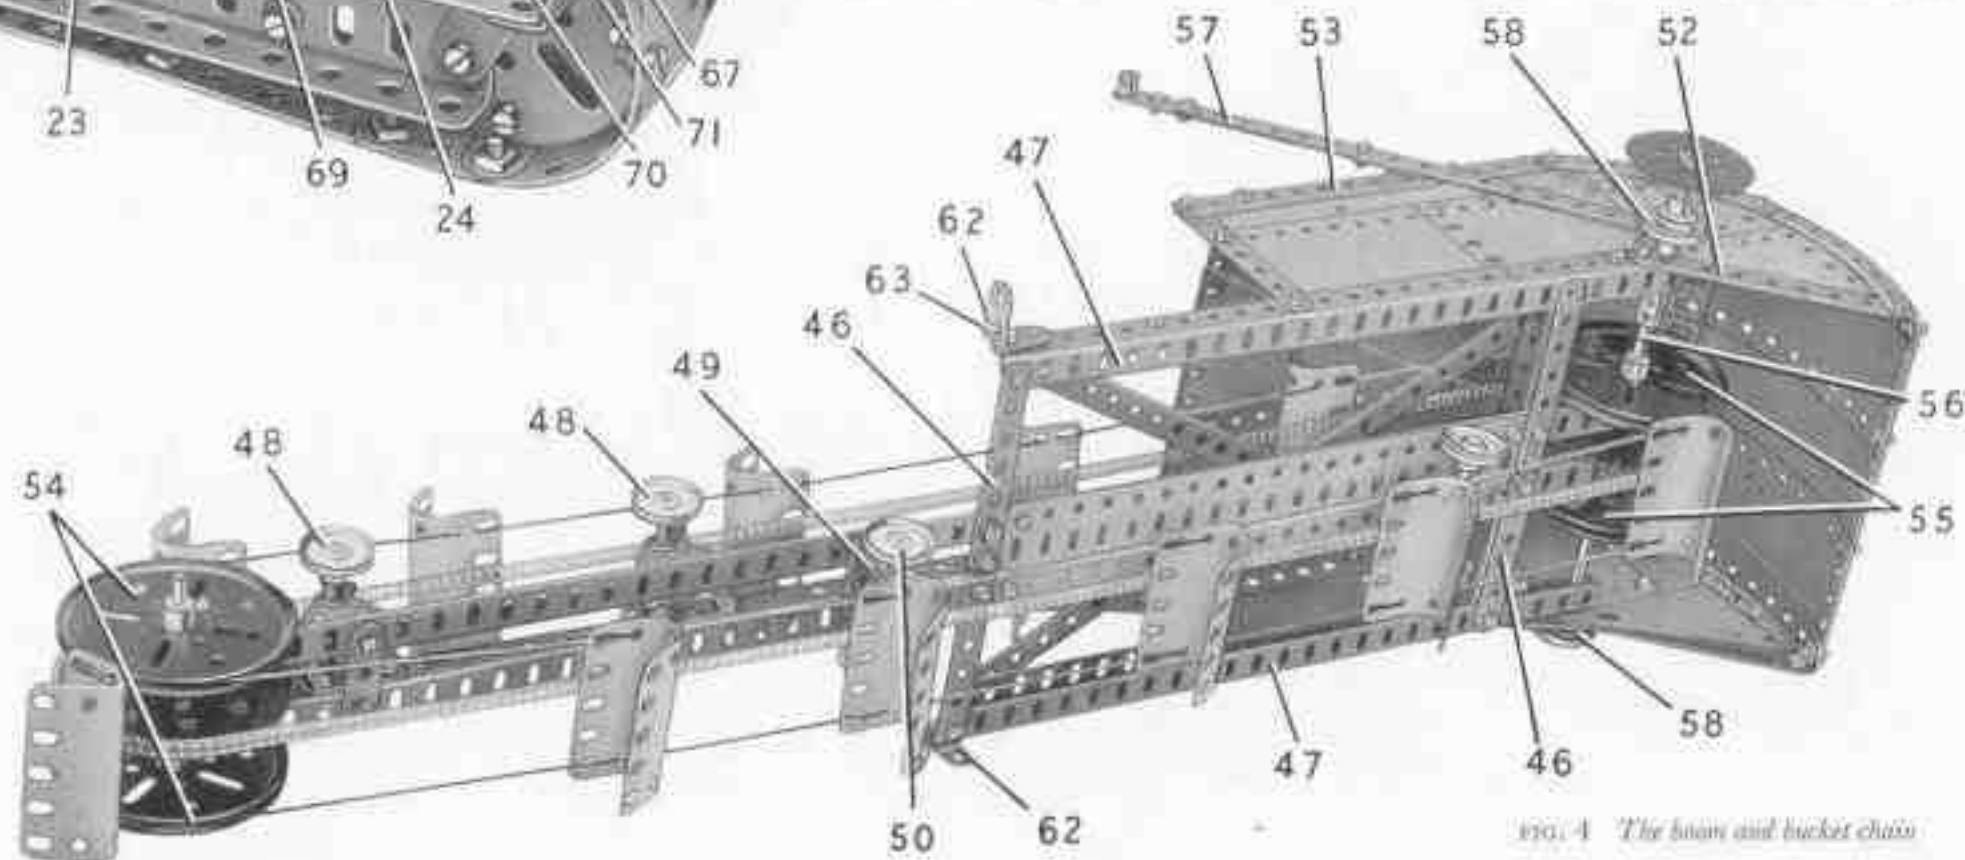

FIG. 4 The boom and bucket chassis
The boom that supports the bucket chain consists of two $24\frac{1}{2}$ " Angle Girders connected by a $1\frac{1}{2}$ " Strip, two $9\frac{1}{2}$ " Flat Girders and two built-up strips (46) (Fig. 4), each made from two $3\frac{1}{2}$ " Strips. The upper one of the strips (46) is strengthened by a 3" Angle Girder on each side. A $12\frac{1}{2}$ " Angle Girder (47) on each side is bolted to the ends of the strips (46), and this structure is braced by two crossed $12\frac{1}{2}$ " Strips. The lower ends of the $12\frac{1}{2}$ " Strips are bolted to $4\frac{1}{2}$ " Angle Girders fixed to the Girders (47), and the upper ends are attached to Angle Brackets also bolted to the Girders (47).